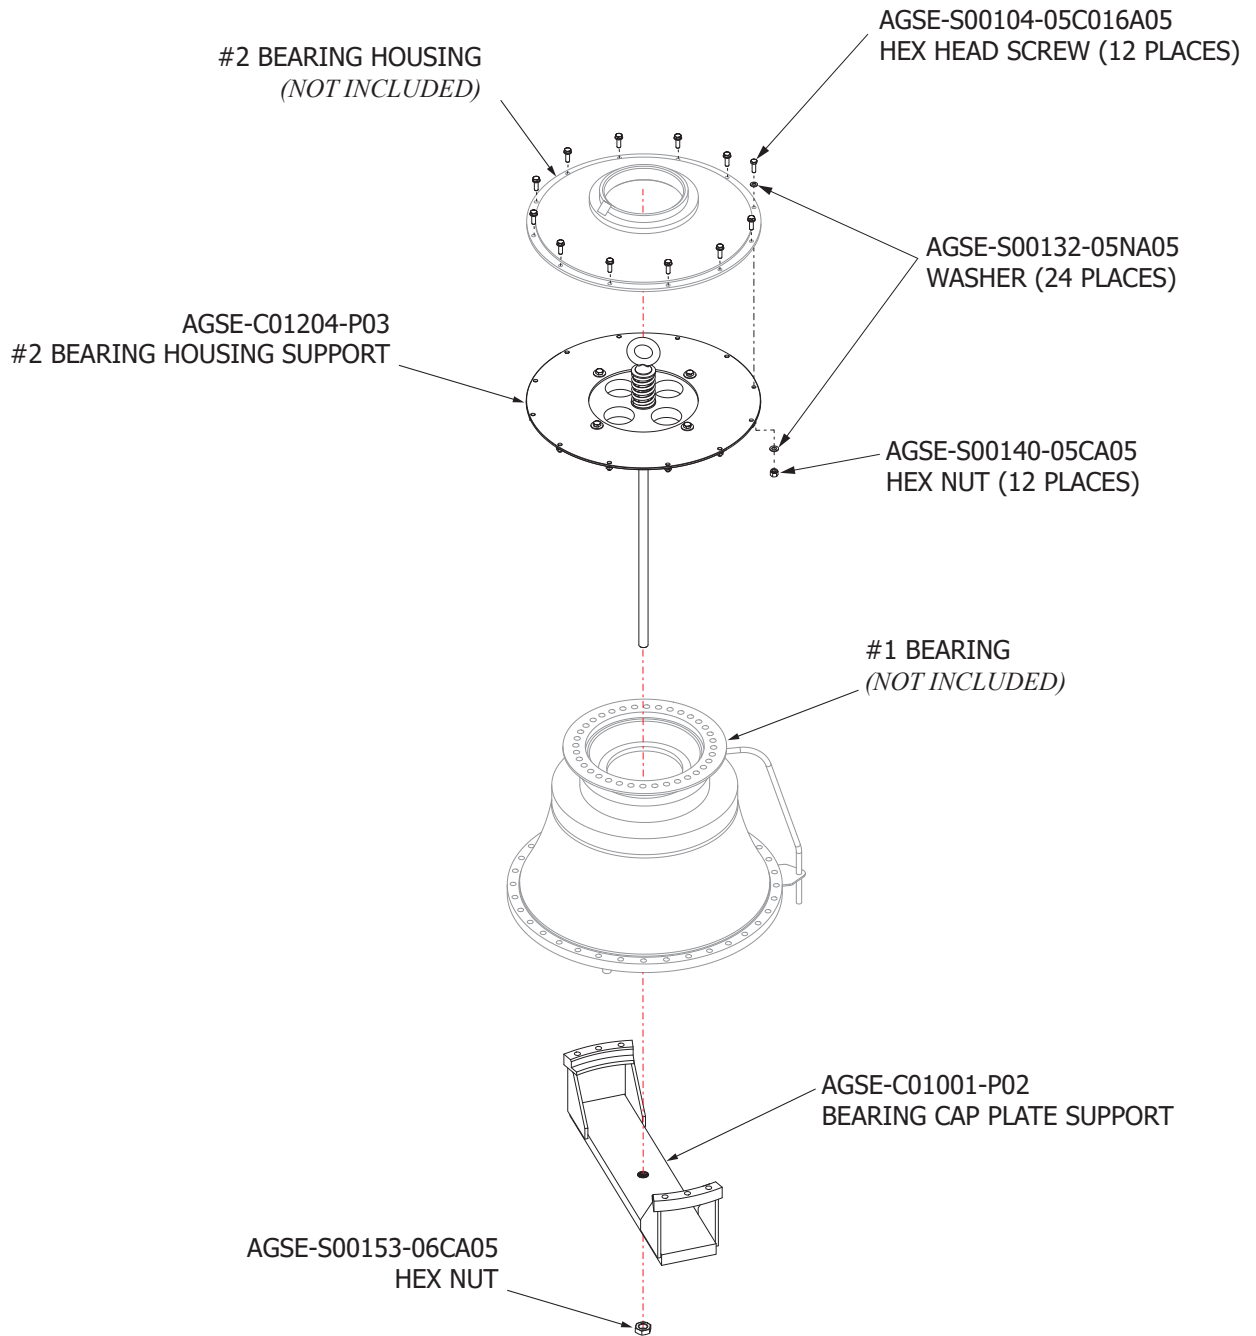

Figure 5.2-2.
- 2) Remove twelve (12) hex head screw, twelve (12) hex nut and twenty four (24) washers from (AGSE-C01204-P03) #2 Bearing housing support (Figure 5.2-2)
- 7) Remove the securing cap by removing washer and hex nut from the bottom of the bearing lower clamp support (Figure 5.2-2), remove the securing cap turning counter clockwise from plate support.
- 4) Install the securing cap on to bearing cap plate support followed by flat washer and hex nut from the bottom of the bearing cap plate support (Figure 5.2-2).